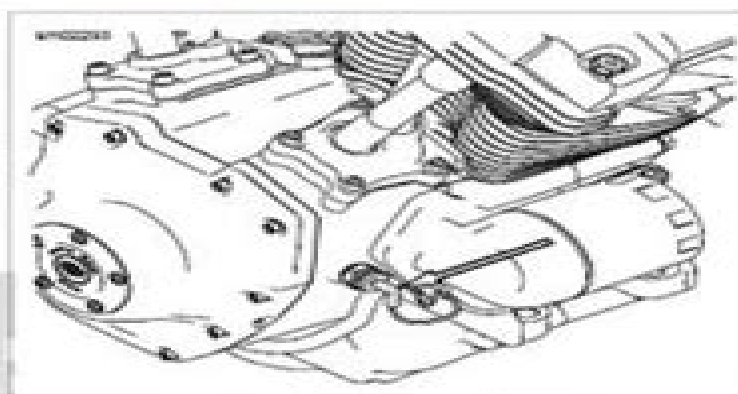

Figure 3-9. Oil Pressure Switch
2. See Figure 3-9. Remove oil pressure switch from crankcase. See 7.25 OIL PRESSURE SWITCH AND SENDER.